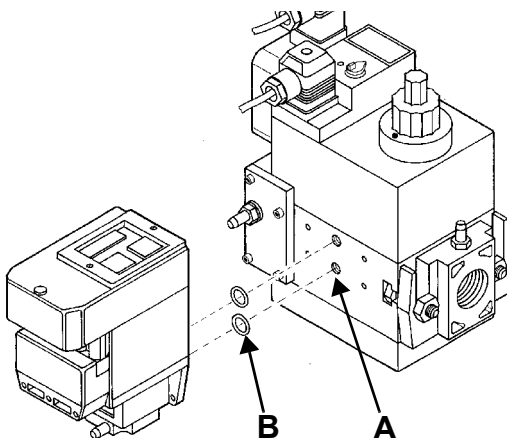
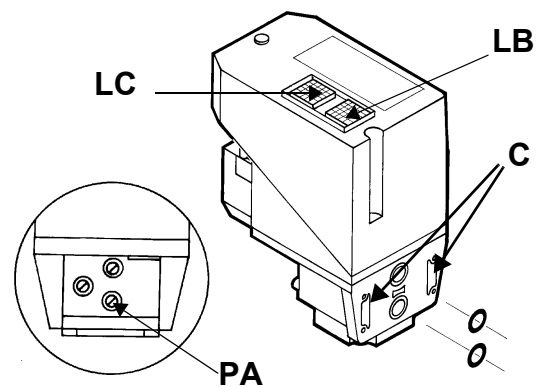

Fig. 11
Fig. 12
- 3 remove the Multibloc's screw plugs (Fig. 11-A);
- 4 insert sealing rings (10,5 x 2,25) into VPS 504 (Fig. 12-B, Fig. 11-B)
- 5 Torque screws 3, 4, 5, 6 (M4 x16) Fig. 11-C
When wishing to monitor the test, install a pressure gauge ranged to that of the pressure supply point **PA** (Fig. 12). If the test cycle is satisfactory, after a few seconds the consent light **LC** (yellow) comes on. In the opposite case the lockout light **LB** (red) comes on. To restart it is necessary to reset the appliance by pressing the illuminated pushbutton **LB**.